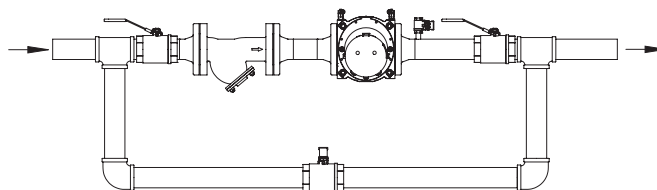

Figure 2. Horizontal installation, side view
a) Piping Configurations [Figures 2, 3 and 4]